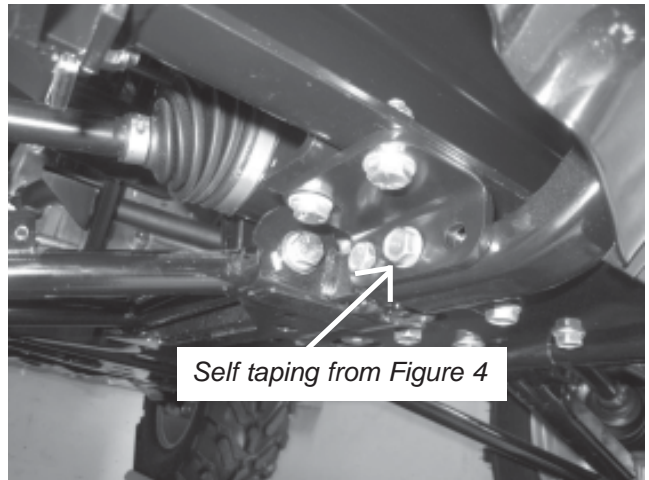

Figure 5
6. Install Part B on both sides. Place the 2 supplied $5/16"$ x $3/4"$ bolts through the rear holes of Part B and into the bottom frame rail. Tighten to the specified torque in Table 1. Place the side frame rail bolt removed in Step 5 in the front hole and thread into hole, see Figure 5. Make sure to tighten straight into the hole. These bolts are self tapping and will tap their own thread while tightening.